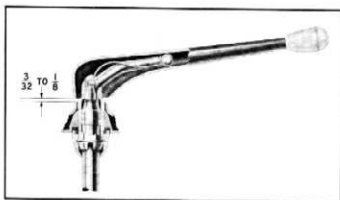

Fig. 23—Steering Column Upper Support to Control Lever Clearance
1. Check clearance between control lever and upper support cover which should be $\frac{3}{32}$ " to $\frac{1}{8}$ " (fig. 23).